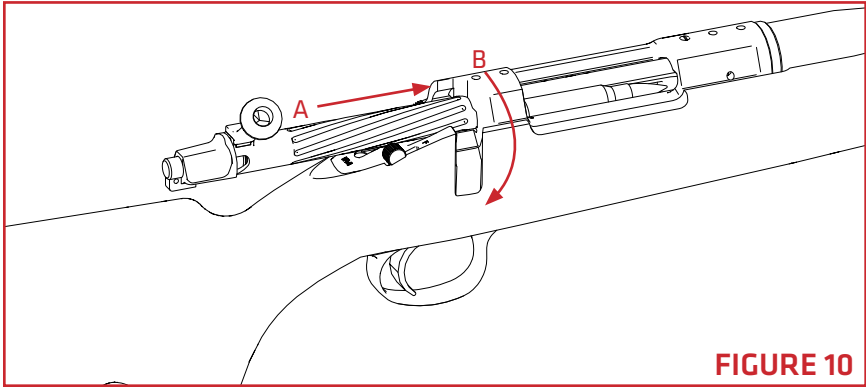

FIGURE 10
4. Push the bolt handle forward (**FIGURE 10-A**), then down (**FIGURE 10-B**) to remove a cartridge from the magazine and lock the cartridge into the chamber.